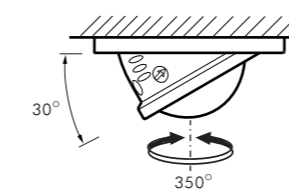

FIG. 22
- The detector head can be pulled down 30° and rotated clockwise or anti-clockwise in range of 350° (See FIG.22).